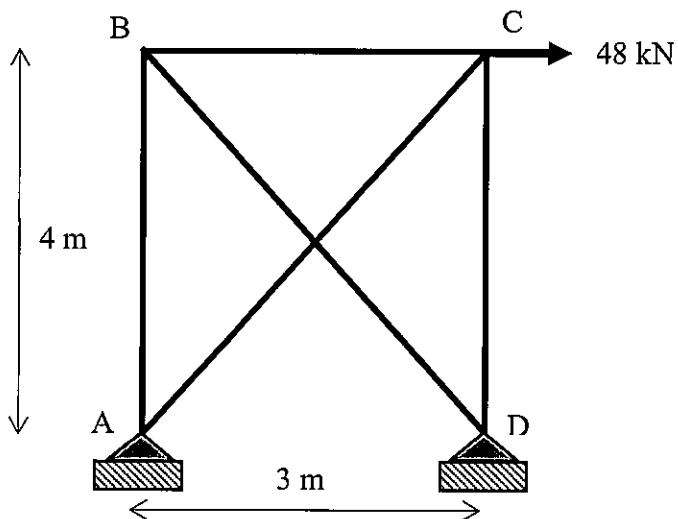

Figure A1(c) / Rajah A1(c)
- CLO2 (c) Figure A1(c) shows the statically indeterminate trusses has pinned supported at A and D. Given cross-sectional area, Elastic Modulus, internal force due to external load and internal forces due to vertical unit load of the member as shown in Table A1(c). Calculate the forces of each members using the Method of Virtual Work if the horizontal reaction at A is selected as the redundant.